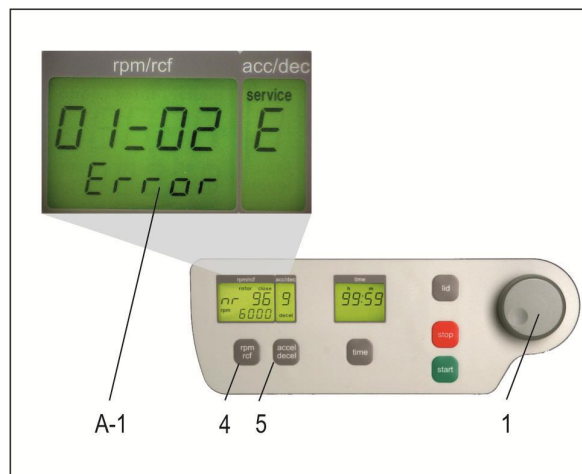

Figure 3
The list of the last 99 error messages can be looked over by pressing the key „rpm/rcf“ (4) and leaf through it by the potentiometer(1). The respective error codes appear in the display „rpm/rcf“ (A-1) (see figure 3). The first two numbers indicate the appeared errors ongoing from 00 to 99, the last two numbers indicate the error code. Please look up in "table 5: error messages" (See APPENDIX VI). Here as well you must shortly switch off the centrifuge for changing to the normal program mode again.